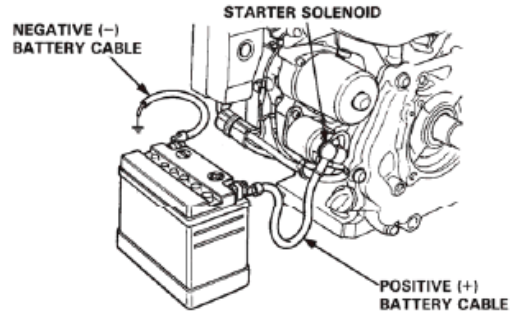

Figure1
- Make sure not to connect the battery leads in reverse or-deer, or short-circuit or breaker's cutting may result.(see figure1)